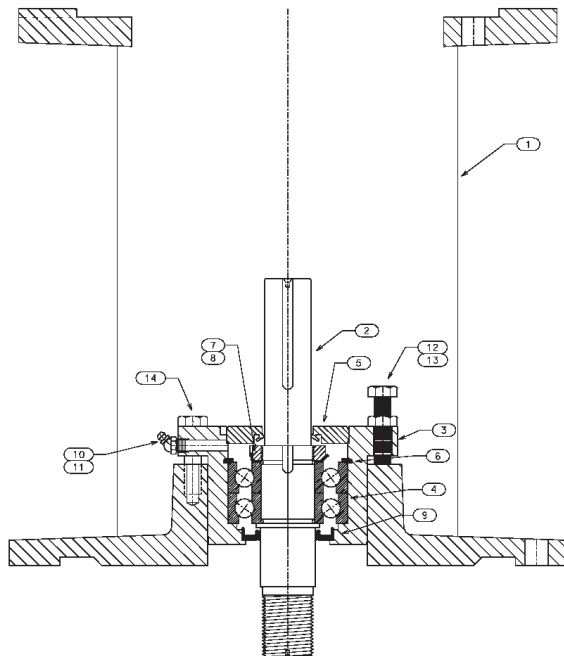

Figure 18 - Grease Lubricated Thrust Pot
2. Using the lifting lugs on the motor, carefully lower the motor onto to the motor stand of the thrust pot (See Figure 18) and align the bolt holes.
NOTE: Be sure the relief fitting (#11 in Figure 18) is clear of paint or any other obstructive material. Otherwise it will cause premature failure of the thrust pot and is not covered under warranty.